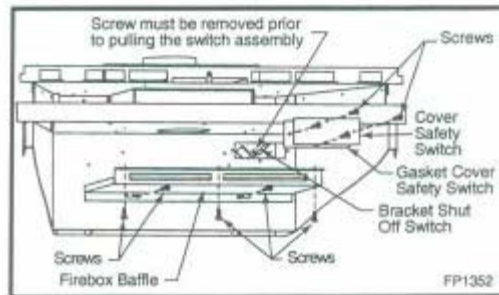

Fig. 14 Access to the blocked flue shut off switch from inside combustion chamber.
3. Remove firebox baffle (Ref Fig. 14)
4. Remove the shut off switch cover fastened with four (4) screws located at the upper right corner of the firebox.